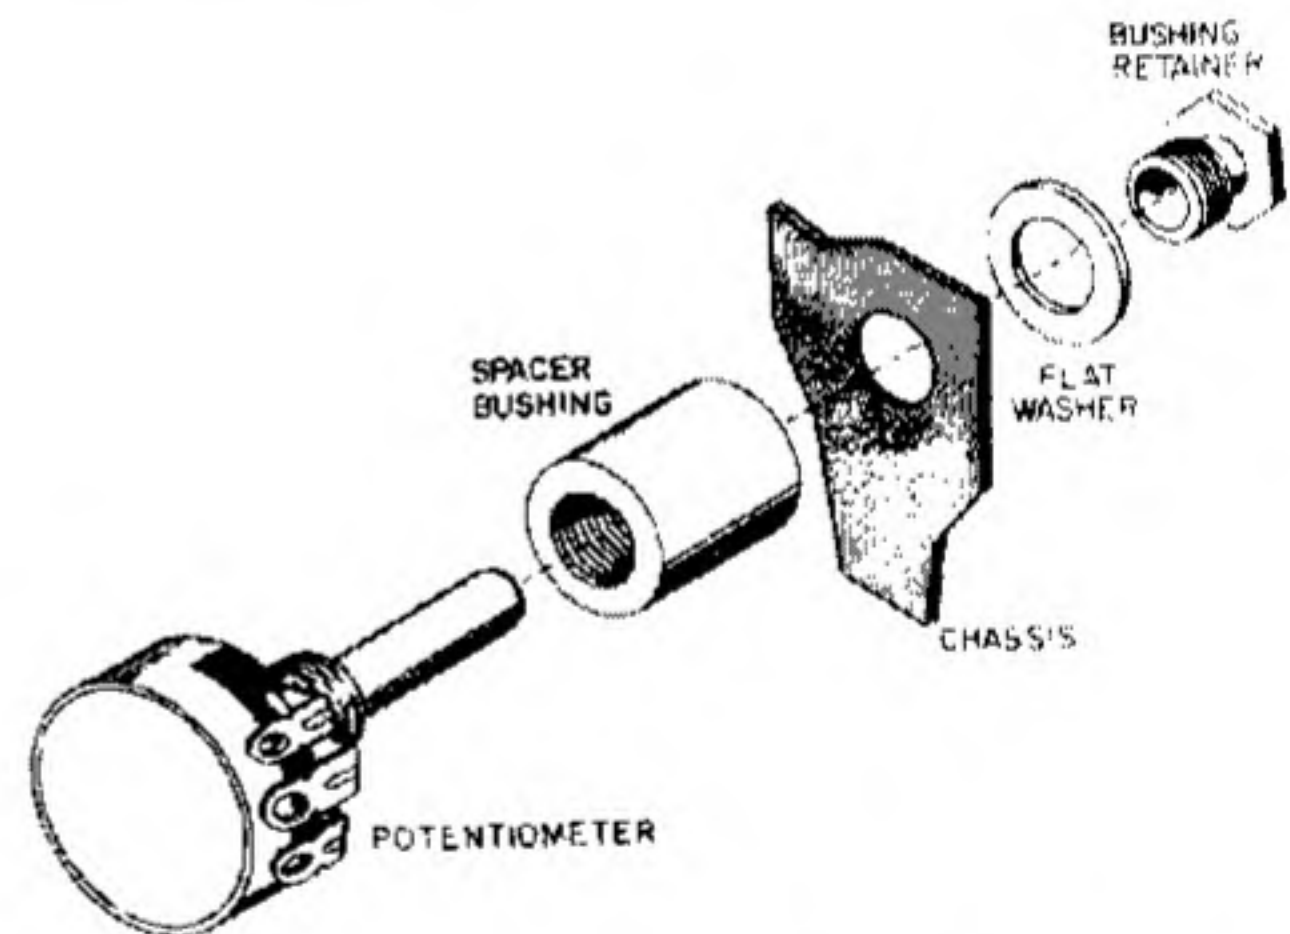

FIGURE 5. MOUNTING THE POTENTIOMETER
- ☐ Note that R-5, the 500 $\Omega$  potentiometer, has three **dummy** terminals marked with *color dots*. Mount R-5 following the assembly details shown in Figure 5. Position the dummy terminals so that they face the three pin jacks.